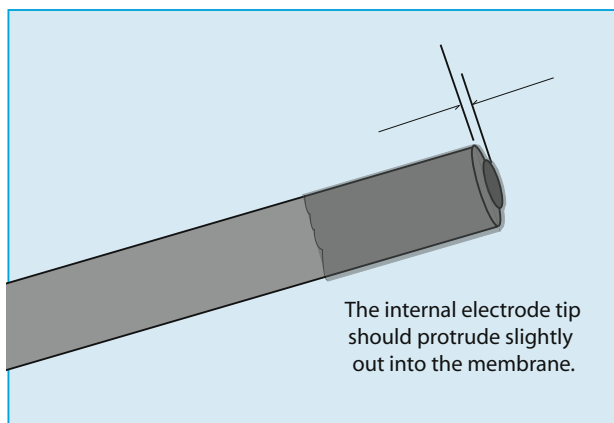

Fig. 12 –Membrane placement. The internal electrode tip should protrude slightly out into the membrane.
8. Slowly and smoothly insert the electrode into the sleeve, and screw the locking cap into the handle. The electrode should be observed to press gently against the membrane. (See **Fig. 12**, below.)
It consists of an internal working/counter electrode combination. This electrode fits inside a disposable stainless steel sleeve (WPI#**600012**) which must contain fresh refillable electrolyte (WPI#**100042**), and is separated from the external environment by a membrane covering the end of the stainless sleeve. The other end of the sleeve is flanged. The locking cap is used to attach the sleeve to the probe handle. When the sensor is fully assembled, the internal electrode should be pressing gently against the membrane, which will then be slightly stretched. (See **Fig. 12**, page 33.) This ensures that the electrolyte diffusion layer will be as thin as possible, which is necessary to minimize sensor response time.